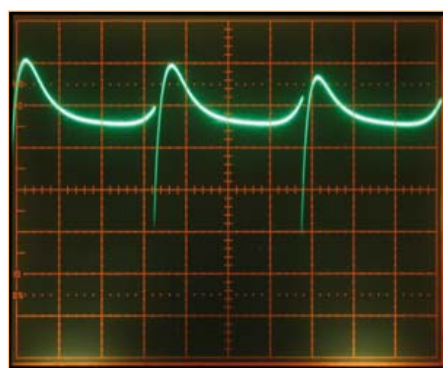
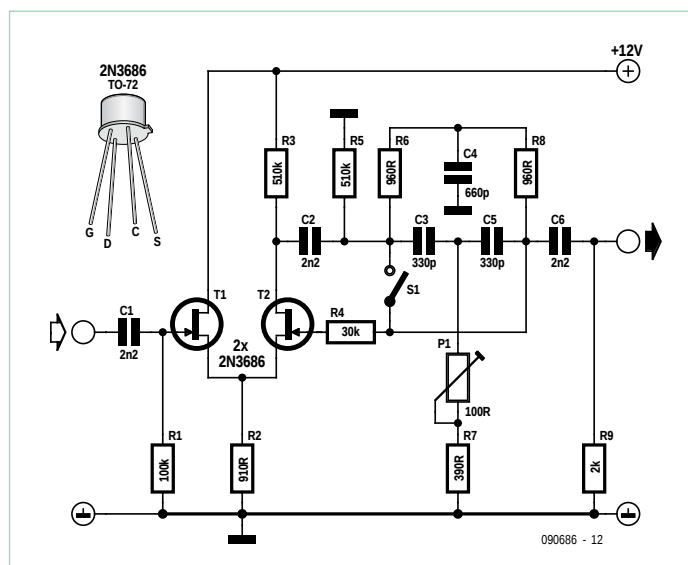

Figure 1. Oscilloscope trace showing regular interruptions in the fan current, from which the tachometer signal is derived.
Figure 2. This filter with an RC network in the positive feedback path offers a true notch (frequency reject) response.
The circuit does not look at the absolute level of current draw of the fan: rather, it analyses the regular variations in current which are synchronised with the rotation of the fan. The oscilloscope trace in Figure 1 shows the characteristic regular interruptions to the current flow from which our cir-
Figure 1. A peaking LC filter designed for an IF of 500 kHz. Tweak R4 to adjust the effectiveness. S1 is the 'defeat' switch and C4 acts as a fine tuning control.
The notch filters described here are of the LC and RC type, and intended for application in the intermediate frequency (IF) section of a radio receiver. Their principle of operation is identical, though the circuit in **Figure 1** is a sharp filter tuned to the signal, and the one shown in **Figure 2**, a notch suppressing selected noise components. Both have an on/off control and a 'depth' (or 'peak') control included. They are designed for operation at 502.7 kHz (basically 500 kHz IF + 2.7 kHz sideband) in terms of the frequency-determining components.
The filters consist of a source follower T1 at the input and an amplifier stage T2 with a degree of positive feedback. The operating frequency of the filters is defined by the LC (Figure 1) or RC parts (Figure 2) in the positive feedback path.
The amount of positive feedback and with it the effectiveness of the filters is adjusted by selection (or fine tuning) of resistor R4 in the LC circuit (Figure 1), or adjustment of P1 in the RC circuit (Figure 2). The operating frequency (rejection frequency) of the LC filter can be fine tuned by trimmer C4. Alternatively, a varicap (variable capacitance diode) with a 25 pF range may be used in this position. Switch S1 is the On/Defeat control for both filters.